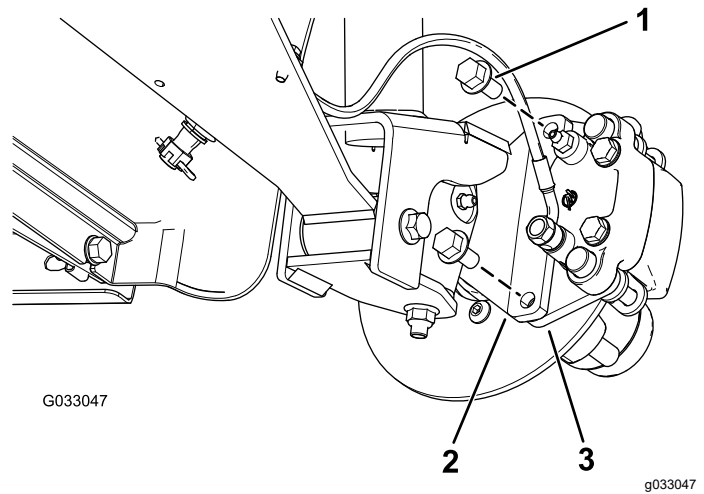

**Figure 28**
2. Remove the 4 lug nuts that secure the wheel to the hub (Figure 28).
4. Align the holes in the wheel to the studs of the hub and assemble the wheel to the hub with the valve stem outward (Figure 28).
5. Secure the wheel to the hub using the lug nuts (Figure 28).